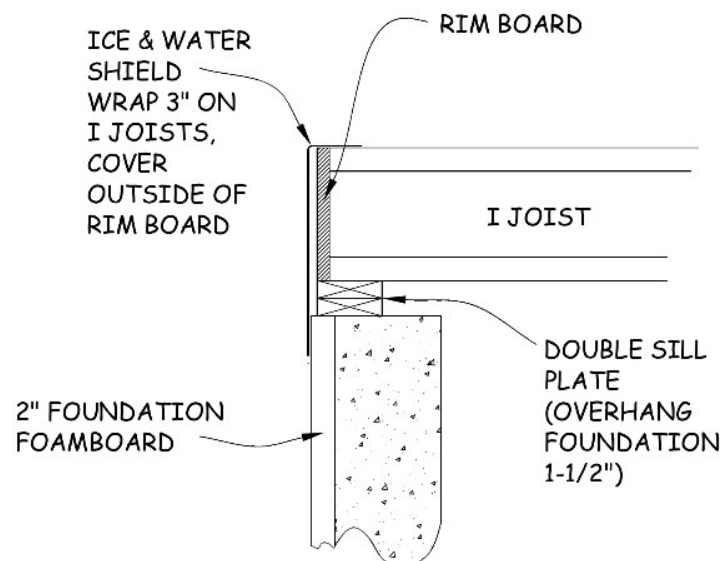

Figure 2-1. Sill Box Section.
7. On the first construction day, the face of any rim board above porch areas must be covered with ice and water shield (see Figure 2-1).